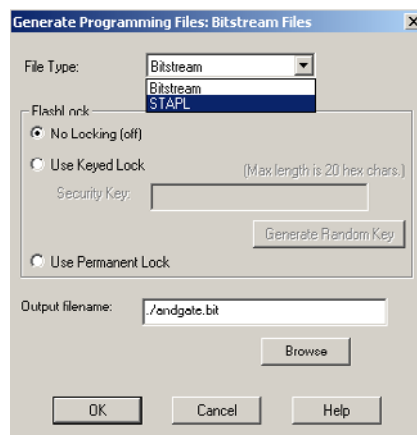

Figure 2-27. Bitstream Files Dialog Box
2. Generate a Bitstream. Click **Bitstream** in the **Design Flow** window or from the **File** menu, select **Export > Programming files**. This opens the **Generate Programming Files: Bitstream Files** dialog box, as shown in Figure 2-27.